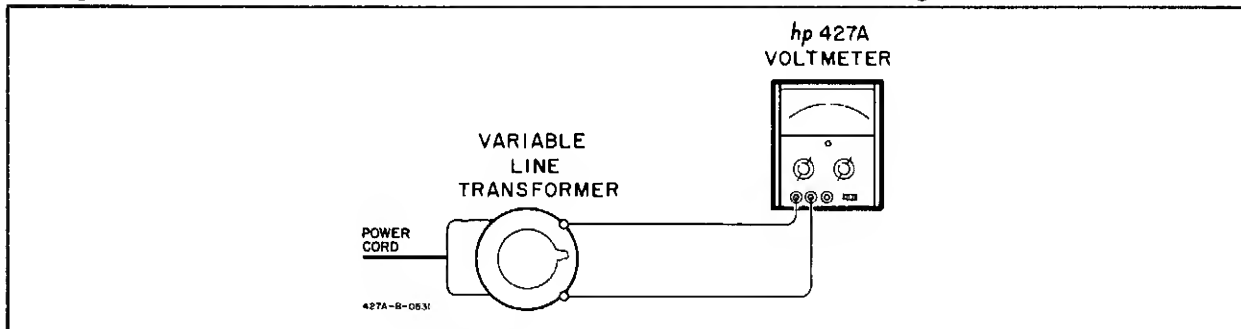

Figure 5-4. AC Rejection Check
- b. Switch the FUNCTION to ACV and the RANGE to 10. Connect the variable line transformer and the Model 427A as shown in Figure 5-4.
5-19. A peak ac superimposed noise signal 100 times the full scale input should affect the Model 427A reading less than 1%. Figure 5-4 shows the test setup using a variable line transformer as a noise generator. A 7.07 volt rms output from the variable line transformer corresponds to a 10 volt peak noise signal. The 10 volt noise signal will be applied to the 0.1 volt dc range.